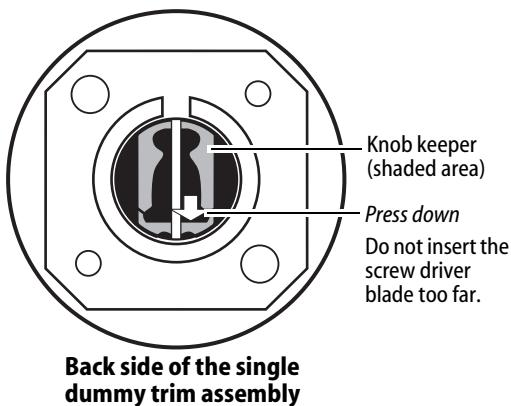

Figure 1–Pressing down on the knob keeper to slide the knob off.
- 1 Using a screwdriver, press down on the knob keeper from the back of the knob, while pulling on the knob. See Figure 1. Slide the knob off.